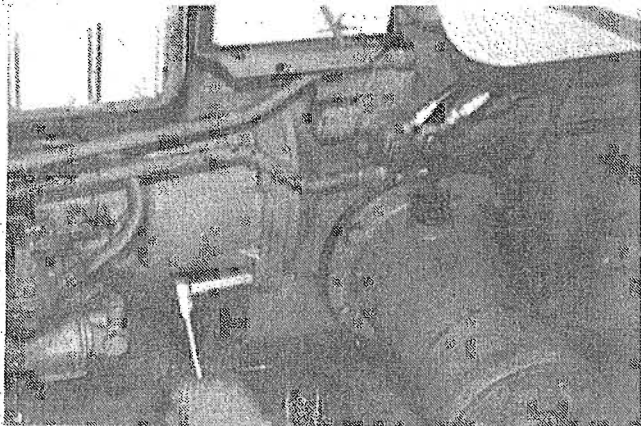

FIG. 6
After verifying that the engine is clear for removal, remove the (6) 10 x 35mm. bolts securing the aft face of the bell housing to the front of the transmission. (Fig. 6)